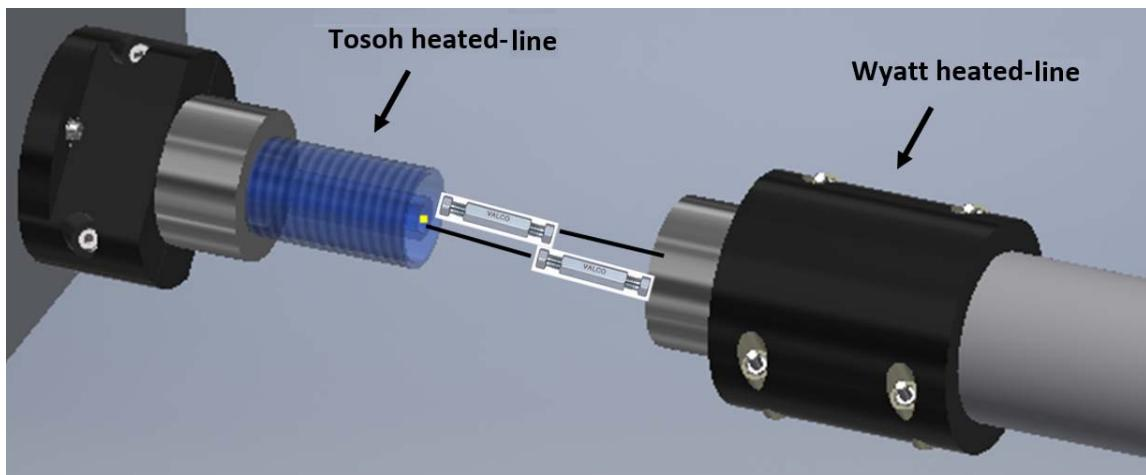

Figure D-18: Two chromatography lines (inlet and outlet from the flow cell) swaged to a Valco union to connect the two heated-line assemblies.
6. Swage the opposite end of the Valco unions to the stainless steel tubing provided with the Wyatt heated-line assembly as shown in Figure D-18. See technical note TN3101: *Swaging Stainless Steel Tubing* for help swaging the stainless steel tubing to the Valco unions.